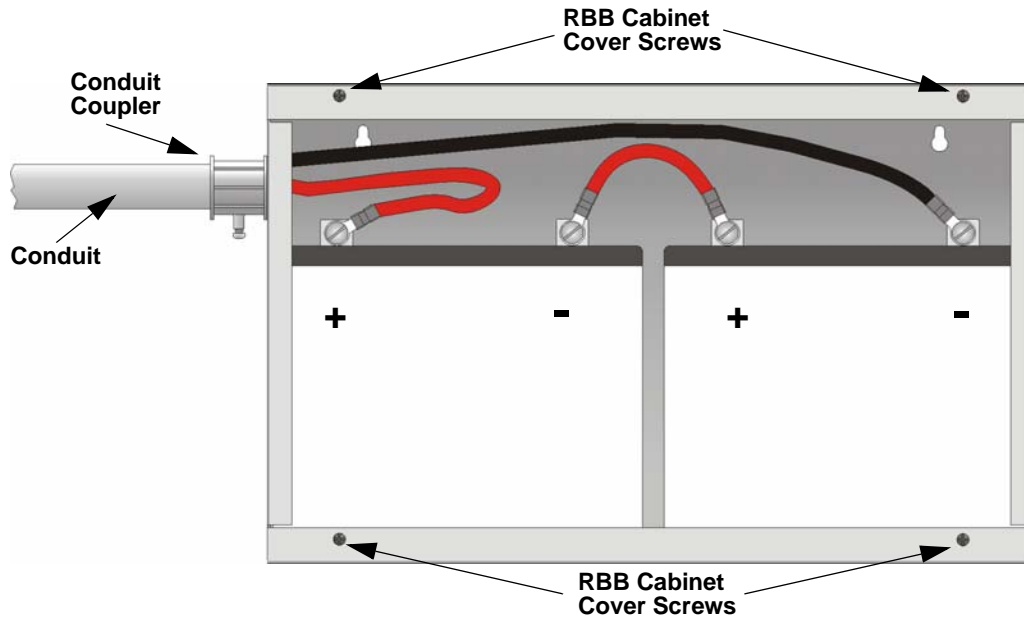

Figure 4-6 Battery Connections in the RBB Cabinet
- Run extended battery cable from control panel cabinet through conduit to RBB cabinet. See Figure 4-6.
Note: Figure 4-6 is an example of how the wire connections can be routed. However, any other cabinet knock-outs (on either the main control panel or the RBB cabinet), that are not previously being used may be utilized to connect conduit between the two cabinets.
- Connect battery leads to the backup battery terminals. See Figure 4-6. Observe the proper polarity to prevent damage to the batteries or the control panel.
- Insert the RBB cover screws into the cover mounting holes (see Figure 4-6). Screw the cover screw $\frac{3}{4}$ of the way into the cover mounting hole.